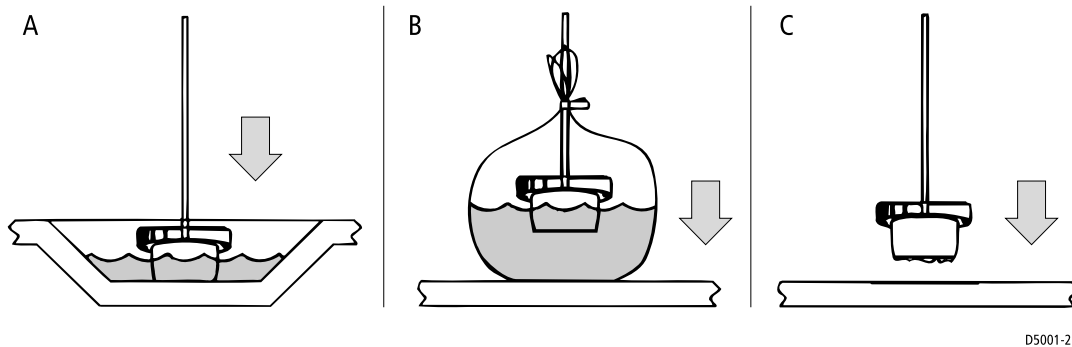

Figure 2-19: Testing the Transducer at the Selected Location
- ii. Place the sensor against the hull and allow bilge water to cover the surface where they touch (see Figure 2-19 A).
- iii. Wet the surface of the hull and press the sensor face against it through the bag (see Figure 2-19 B).
iii. Press it against the hull with a twisting motion (see Figure 2-19 C).